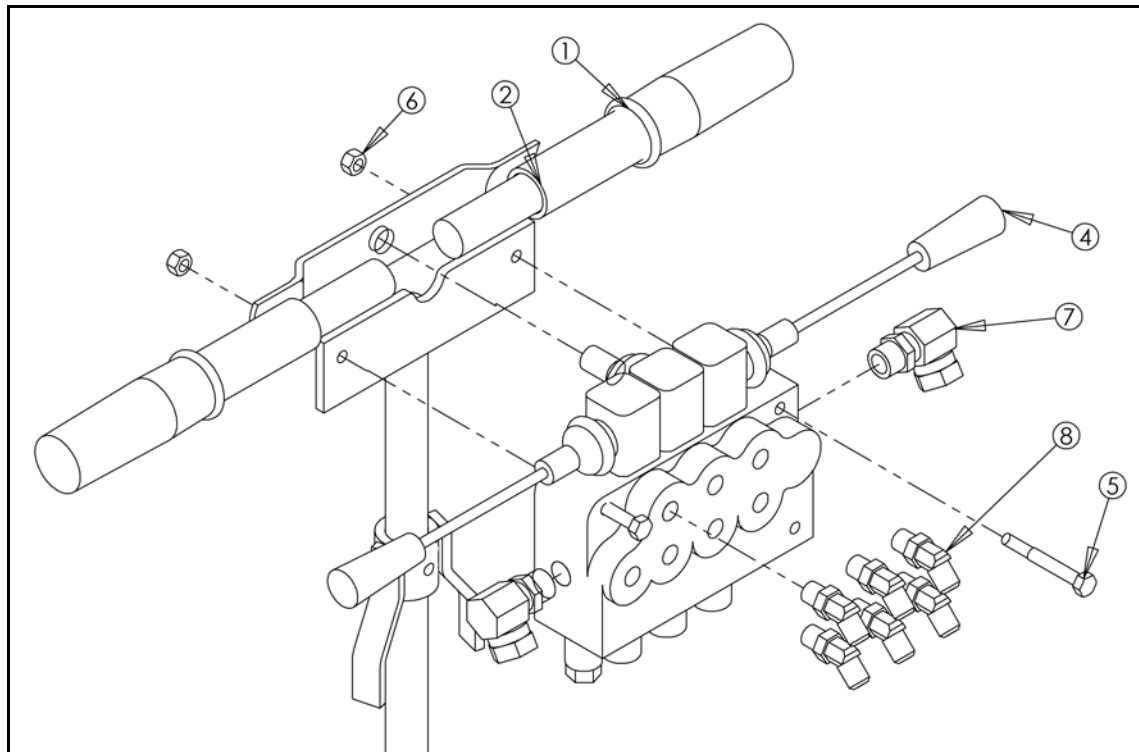

Figure 3.13
Refer to Table 3.2 for the quantity of each component used and Figures 3.13 and 3.14 for the installation of the steering sub-assembly.
2. Build the steering assembly as follows (Figure 3.13):
- a. Attach the three spool valve (4) to the wheel move handle (1) with 5/16" x 2-1/2" bolts and locknuts (5,6).
- b. Place 45° elbows (8) in three-spool valve (4).
- c. Install swivels (7) on three spool valve.
- d. Slide steering stop (3) on wheel move handle, do not secure set screw.